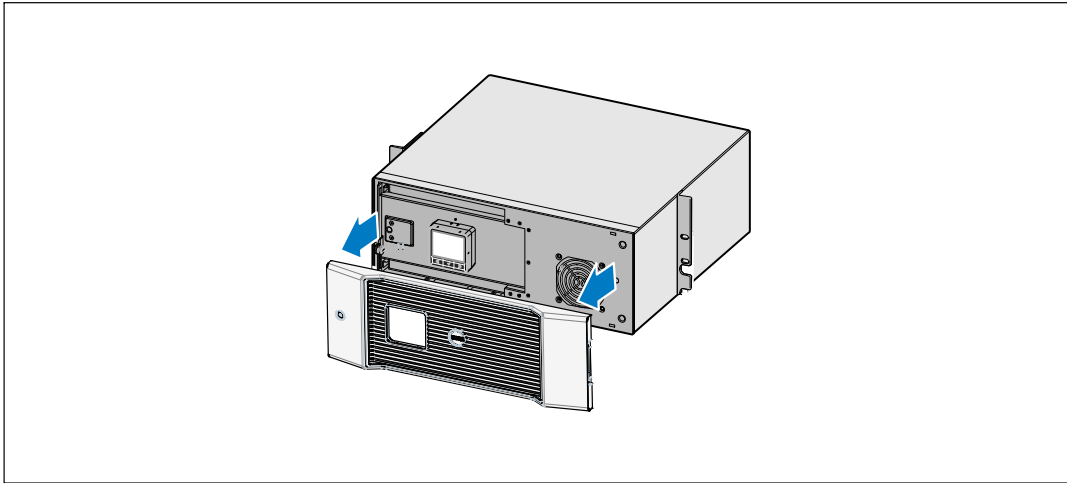

Figure 23. Removing the UPS Front Cover
- 3 Remove the UPS front cover (see Figure 23).